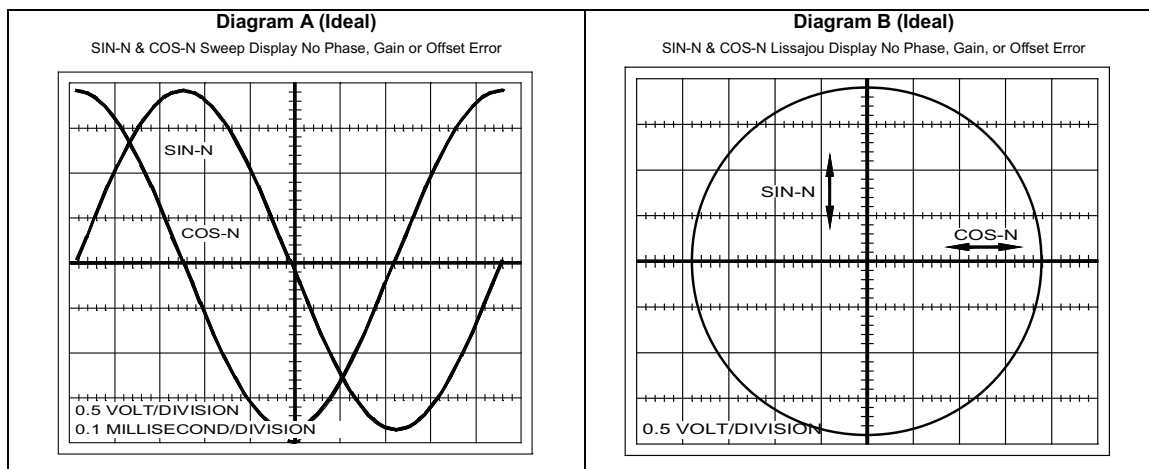

Figure 1-4: Ideal Oscilloscope Displays (Sweep and Lissajou)
6. Move the table to the area where the amplitude is the largest, and verify or adjust for the following. (See Diagram A – Diagram H in Figure 1-4 and Figure 1-5 for examples.)